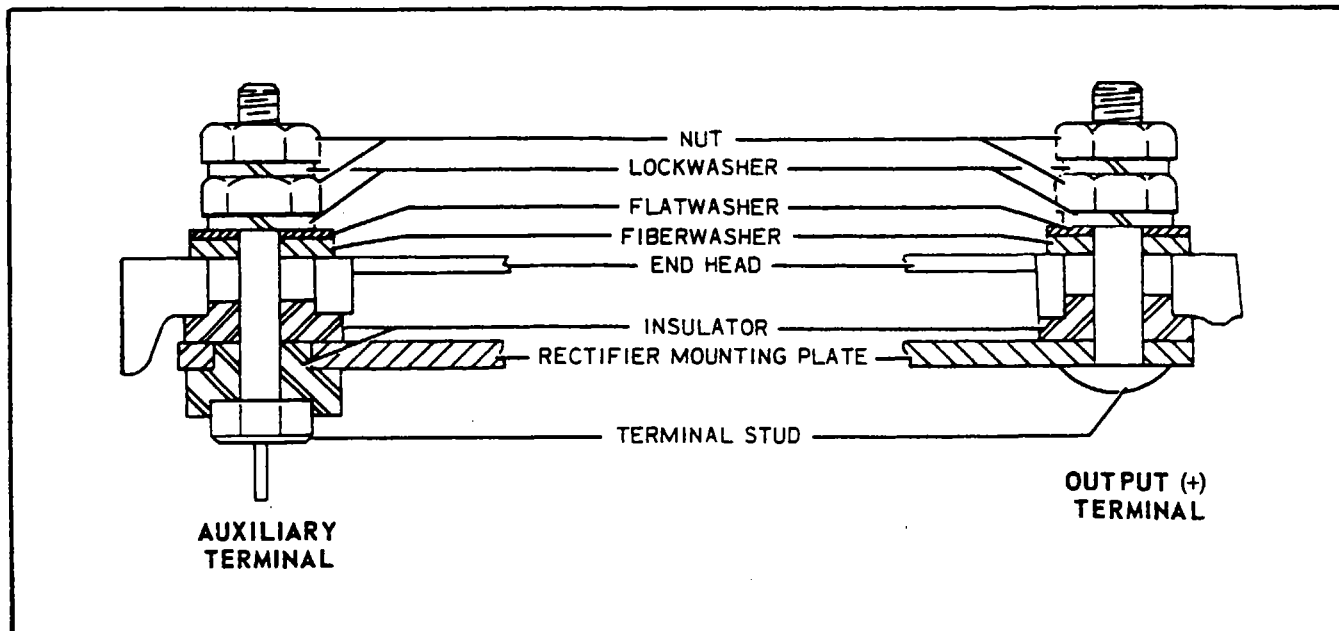

Figure 11-7. Terminal Assembly
- c. Reassemble the rectifier mounting plate studs and insulators, making sure they are in the correct order. (Refer to Figure 11-7.)